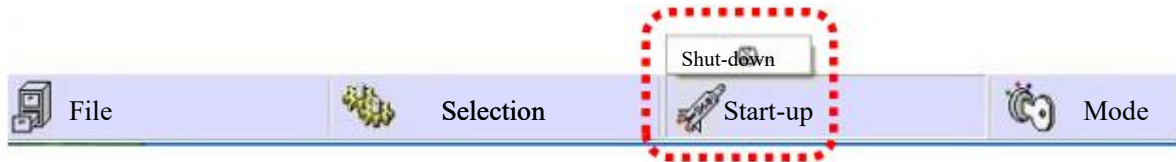

Fig. 6.3
6.2.1 Click , as shown in Fig.6.3 Automatic zeroing